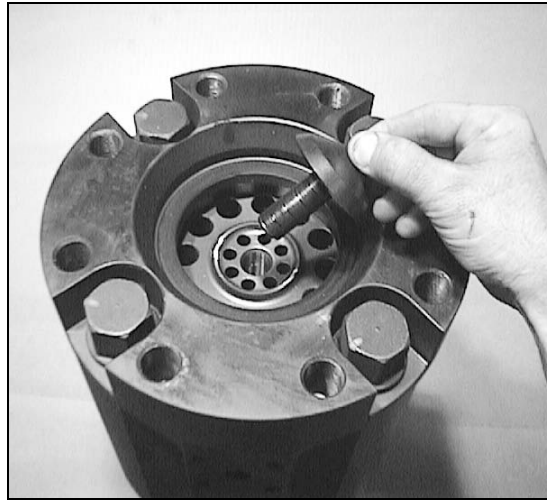

Fig. 63 - steel shock-absorbing diaphragm
- f) Insert 4 side bolt locks and 4 rubber stoppers (pos. 314 & 313) onto the heads of the side bolts.
- g) Insert the steel shock-absorbing diaphragm into the shock-absorber cover (fig. 63 next page).